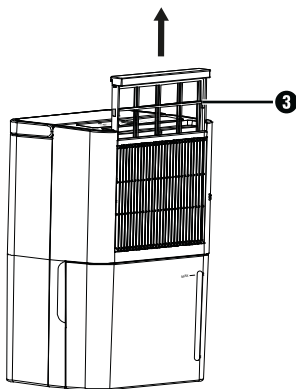

Fig. 6
- ◆ The air filter ❸ is located behind the air inlet grille ❷. Take hold of the grip edge of air filter ❸ with your fingers and pull it upwards out of the appliance (see figure 6).